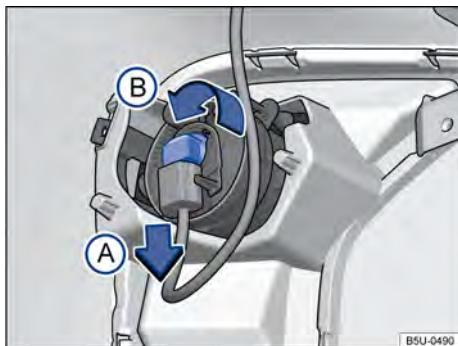

Fig. 171 Behind the front bumper: access to the fog light bulb.
- ① Observe and follow the instructions on the checklist → page 188.
- ② Disconnect the bulb connector → **Fig. 171** in the direction of the arrow **A** and press the connector securing lock simultaneously.
- ③ Turn the bulb socket → **Fig. 171**, in the direction of the arrow **B**, and remove it
- ④ The fog light bulb is secured in the holder; the entire bulb/holder assembly must be replaced
- ⑤ Replace the defective bulb with a new bulb of the same type.
- ⑥ Insert the new bulb/socket set into the housing.
- ⑦ Press the socket down as far as possible and turn clockwise.
- ⑧ Ensure that the socket is properly secured.
- ⑨ Fit the bulb connector.